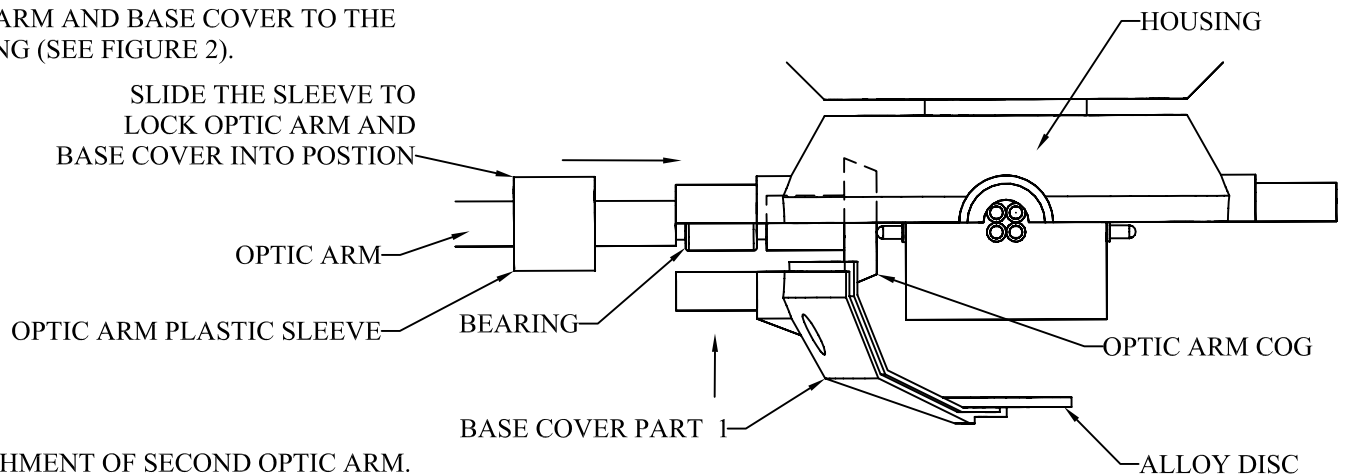

FIGURE 2
1. SLOT FIRST OPTIC ARM INTO HOUSING POSTION. ATTACH PART 1 OF BASE COVER THEN SLIDE PLASTIC SLEEVE FROM OPTIC ARM TO LOCK OPTIC ARM AND BASE COVER TO THE HOUSING (SEE FIGURE 2).